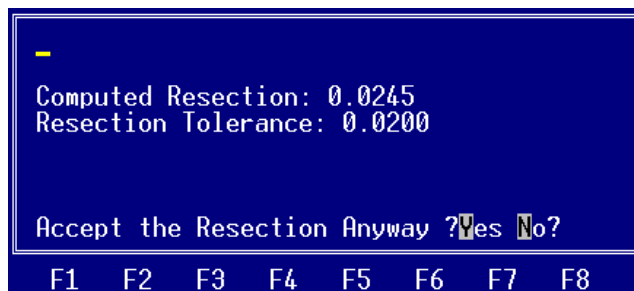

Figure 6-2 Computed Resection Out of Tolerance
For two (2) point station resection, SDMS Collector first computes the results of the coordinates of the occupied station for each possible combination of the measurements (for a 2 point resection in which all distances and angles are measured, there would be 4 possible solutions), then computes the mean and standard deviation of these results. If the standard deviation is greater than the resection tolerance, SDMS Collector will display the information, as shown in Figure 6-2, and the user has the option to accept or reject the computation. If the standard deviation is less than the default tolerance, the computation will be completed without user interaction.